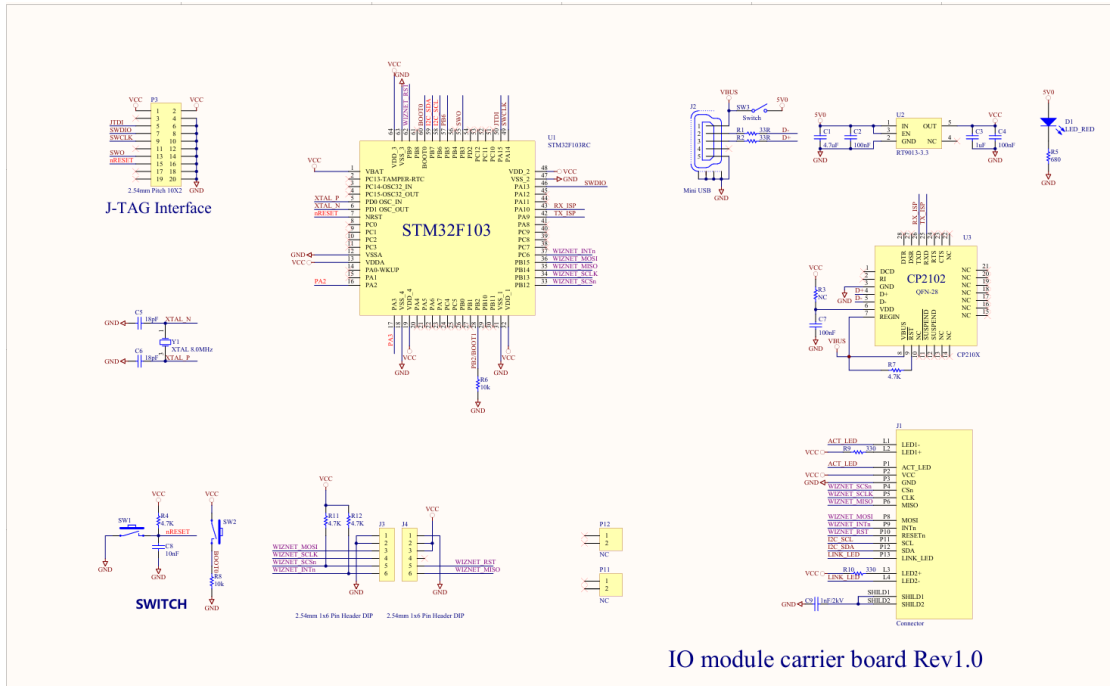

Figure 2-4 Reference design schematic diagram of the peripheral circuit of WIZ-IP55
- The reference design schematic diagram of the peripheral circuit for WIZ-IP55 is shown in Figure 2-4.